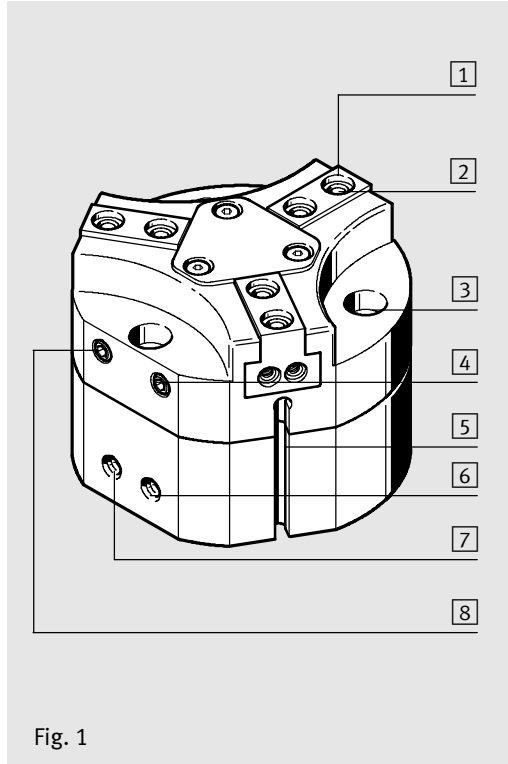

Fig. 1
- Fitting on the base surface from above or below (first insert the proximity sensors in slot [5]) (Fig. 1).
Connection [8] (Fig. 1)	Seal air (M5, optionally [4])